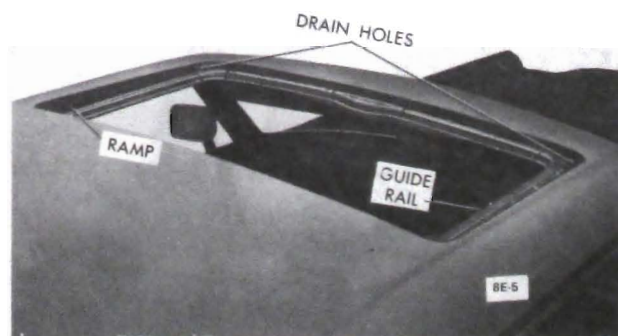

Figure 8E-5 Sunroof Fully Open
2. Examine ramps in drainage channel to determine proper alignment with lifting element at rear of panel. See Figure 8E-5. Point of contact between lifting element and ramp can be seen on rearward slope on ramp.